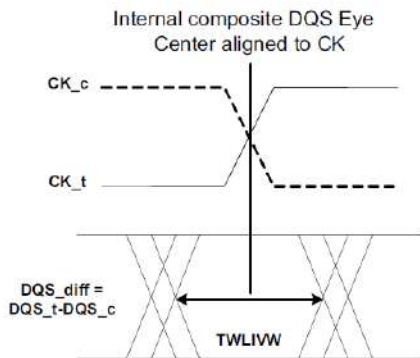

Figure 25. DQS\_t/DQS\_c to CK\_t/CK\_c timings at the DRAM pins referenced from the internal latch
- 28)  $t_{WLIVW}$  is defined in a similar manner to  $tdlVW\_Total$ , except that here it is a DQS input valid window with respect to CK. This would need to account for all VT (voltage and temperature) drift terms between CK and DQS within the DRAM that affect the write-leveling input valid window. The DQS input mask for timing with respect to CK is shown in Figure 25. The "total" mask (tWLIVW) defines the time the input signal must not encroach in order for the DQS input to be successfully captured by CK with a BER of lower than tbd. The mask is a receiver property and it is not the valid data-eye.